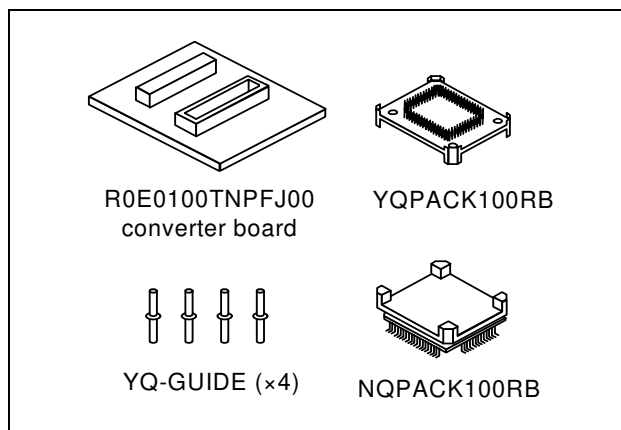

Figure 1 Package components of the R0E0100TNPfJ00
2. Package Components (See Figure 1)